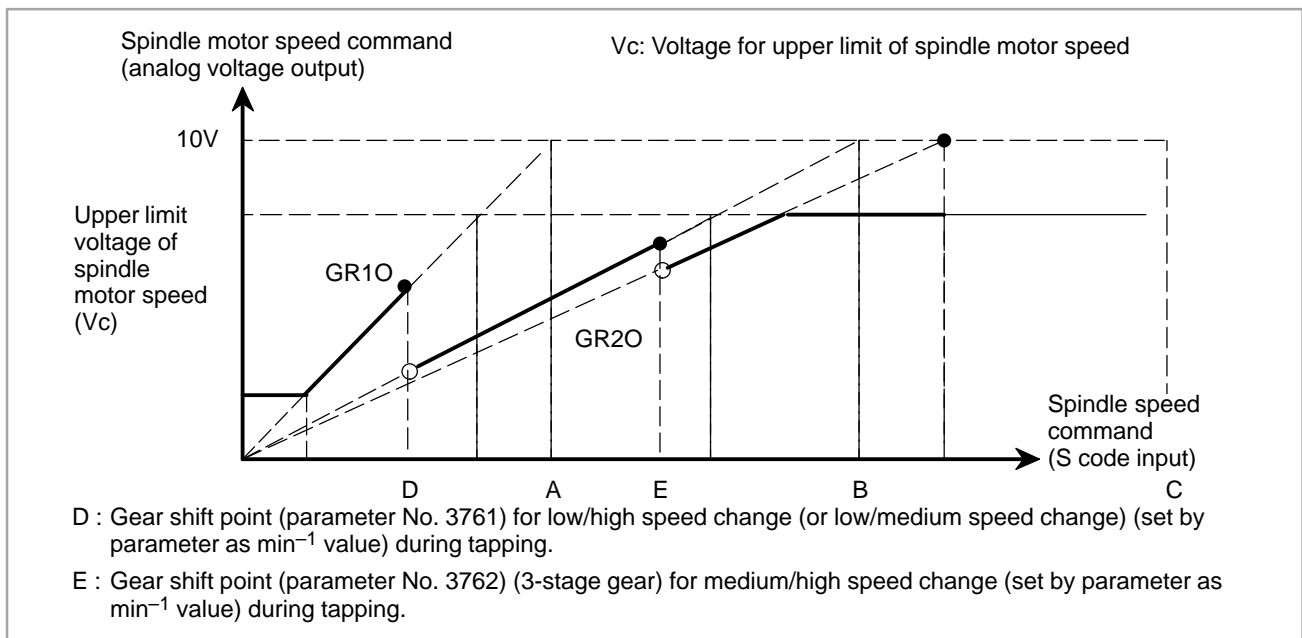

Fig. 9.3 (b) S code input and output voltage (in tapping)
In case of G84 (tapping cycle) or G74 (counter tapping cycle) the gear shift speed is changed by parameter SGT(No. 3705#3). In this case, gear shift is performed at the speed set by parameter nos. 3761 and 3762 (Fig. 9.3 (b)).
- M type gear change method B (M series) (Fig. 9.3 (c))